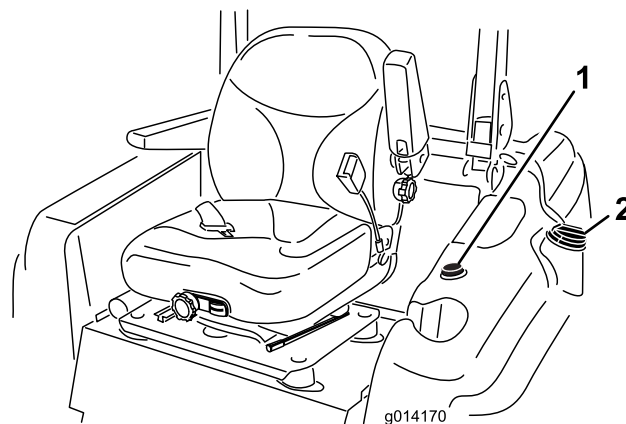

Figure 7
3. Clean around the fuel tank cap and remove the cap (Figure 7).